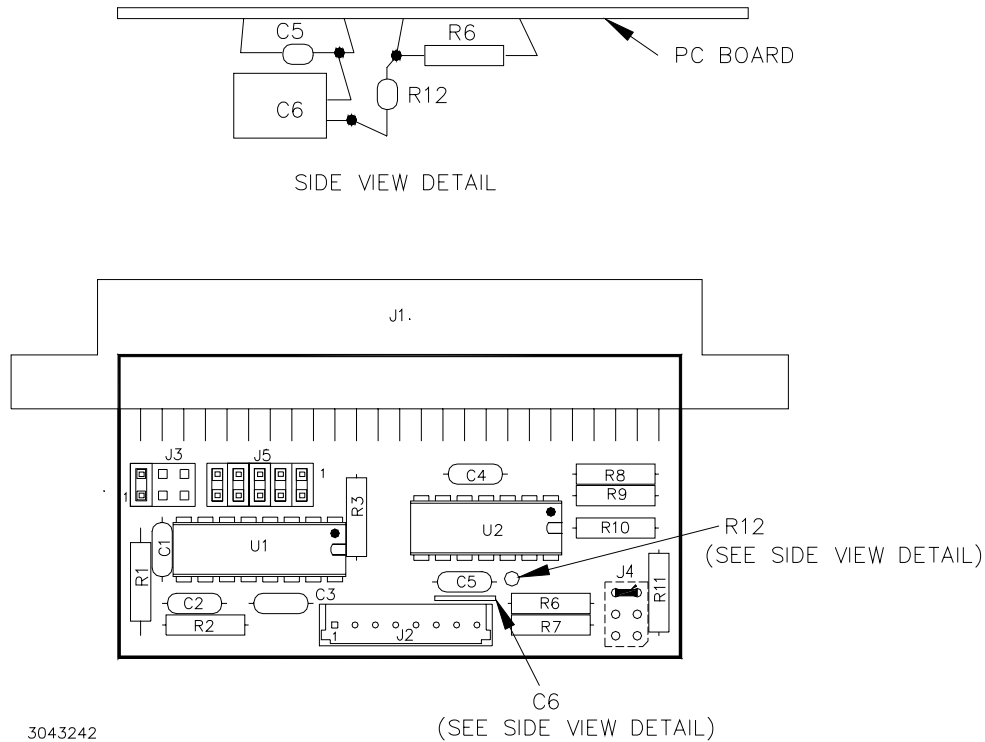

FIGURE 2. ADAPTER ASSEMBLY A11, COMPONENT LOCATION
2.4 ADAPTER ASSEMBLY A11 COMPONENT ADDITIONS PROCEDURE (SEE FIGURE 2)
2. Gain access to A11 components (see Figure 2) by removing two screws securing connector A11J1 to the shell.